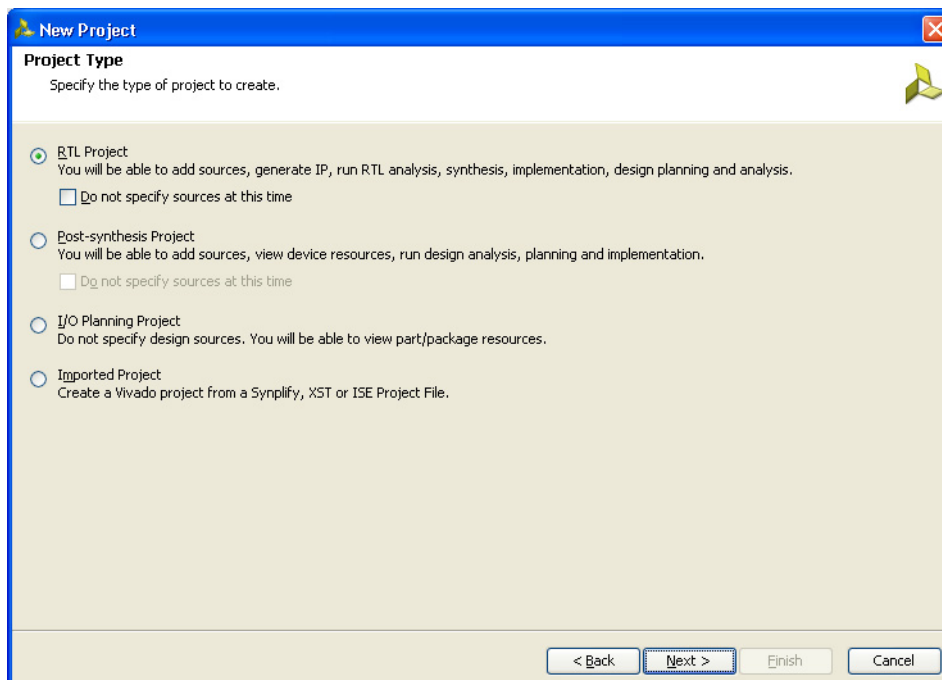

Figure 5-4: Project Type
4. Click **Next** to proceed to the Project Type page (Figure 5-4). Select the Project Type as RTL Project because MIG deliverables are RTL files.